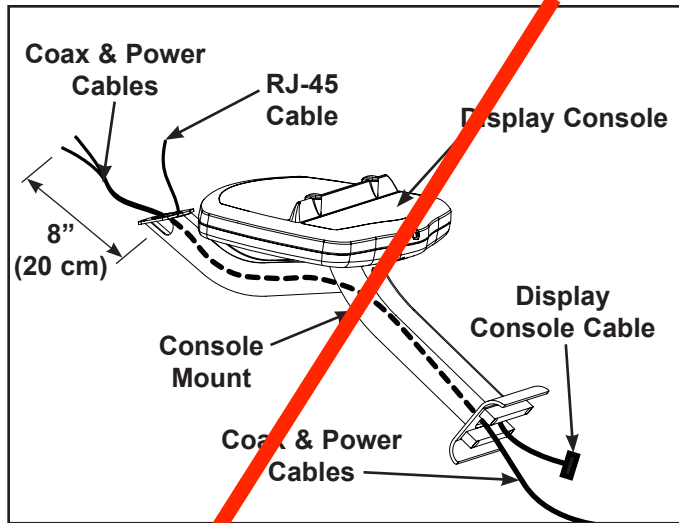

Figure 20
B. Locate the coax and power cables (B) exiting the top of the Arc frame.
C. Insert the coax and power cables (B) into the bottom of the console mount until 8" (20 cm) of cable exits the top. See Figure 20.